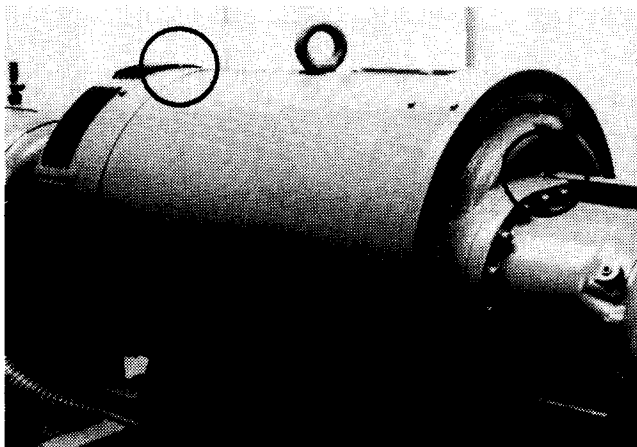

Fig. 33 Lube nipples for motor bearings
- 8.2.3 Lubricate the motor bearings. This must be done while the unit is running. Make certain that the lube nipples (see Fig. 33) are clean. Add fresh grease using a clean grease gun.
- 8.4.2 Lubricate the motor bearings if the motor frame number is higher than IEC 225 M. This must be done while the unit is running. See to it that the lube nipples (see Fig. 33) are clean. Add fresh grease using a clean grease gun.
- 8.5.3 Lubricate the motor bearings (all sizes). See Fig. 33 and Table 4.